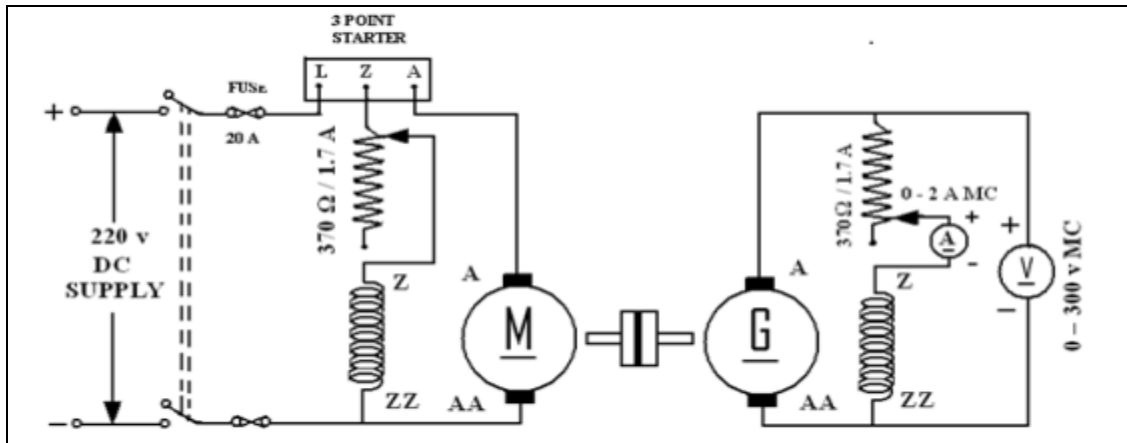

Figure 1 – Open Circuit Characteristics of DC Shunt Generator
2. Using magnetization characteristics calculate the critical speed of DC shunt generator at 100 ohms in Figure 1.